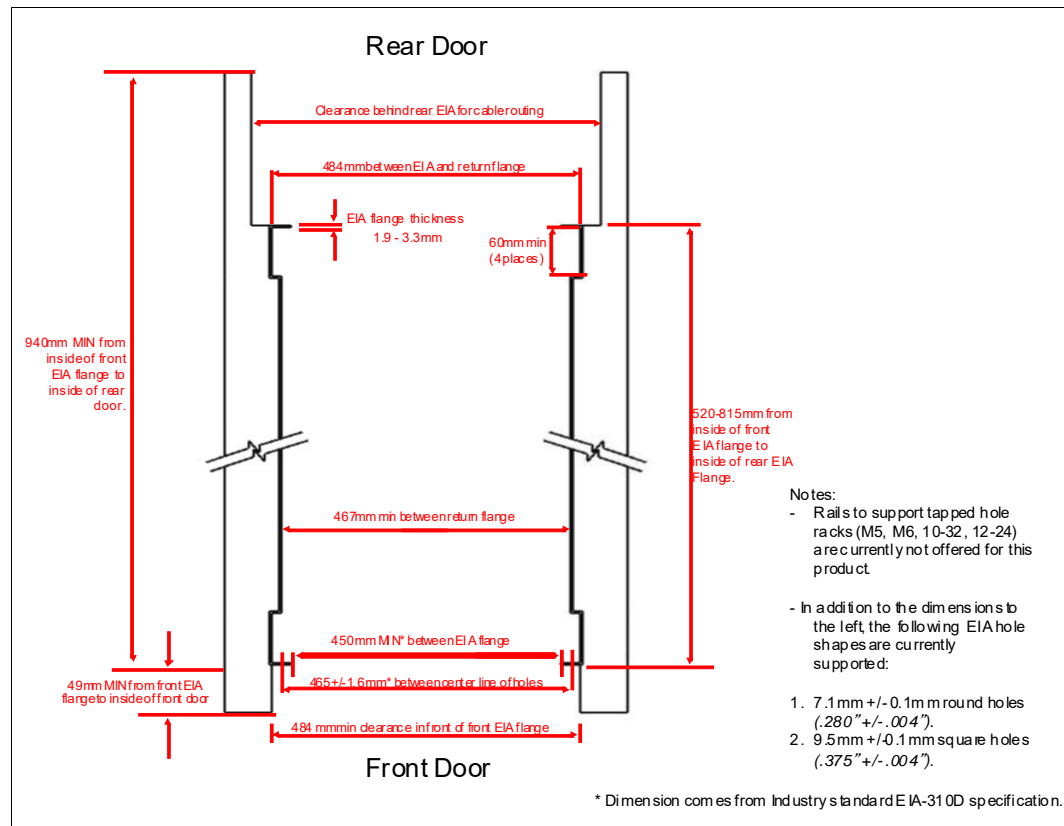

Figure 1-15 Top view of the rack specification dimensions (not specific to IBM)
- The front rack opening must be 451 mm wide  $\pm 0.75$  mm (17.75 in.  $\pm 0.03$  in.), and the rail-mounting holes must be 465 mm  $\pm 0.8$  mm (18.3 in.  $\pm 0.03$  in.) apart on-center (that is, the horizontal width between the vertical columns of holes on the two front-mounting flanges and on the two rear-mounting flanges). Figure 1-15 is a top view showing the specification dimensions.